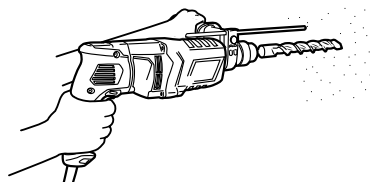

Fig. 7
- (1) Mount the drill bit.
- (2) Pull the trigger switch after applying the drill bit tip to the drilling position (**Fig. 7**).
- (3) Pushing the rotary hammer forcibly is not necessary at all. Pushing slightly so that drill dust comes out gradually is sufficient.
When the drill bit touches construction iron bar, the bit will stop immediately and the rotary hammer will react to revolve. Therefore grip the side handle and handle tightly as shown in **Fig. 7**.